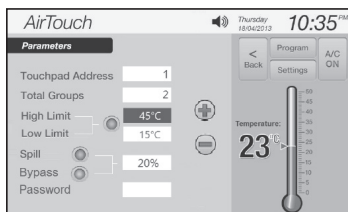

Figure 10.
- b) Highlight the high limit or low limit by touching the edit fields accordingly, and then adjust them to the required value by touching  or  button (Figure 10).